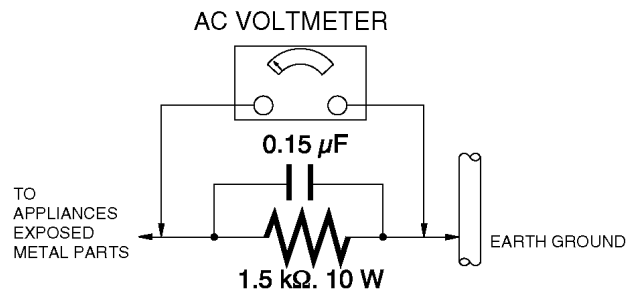

Figure. 1
2.3. LEAKAGE CURRENT HOT CHECK (See Figure 1.)
2. Connect a 1.5 k Ω , 10 W resistor, in parallel with a 0.15 μ F capacitor, between each exposed metallic part on the set and a good earth ground, as shown in Figure 1.